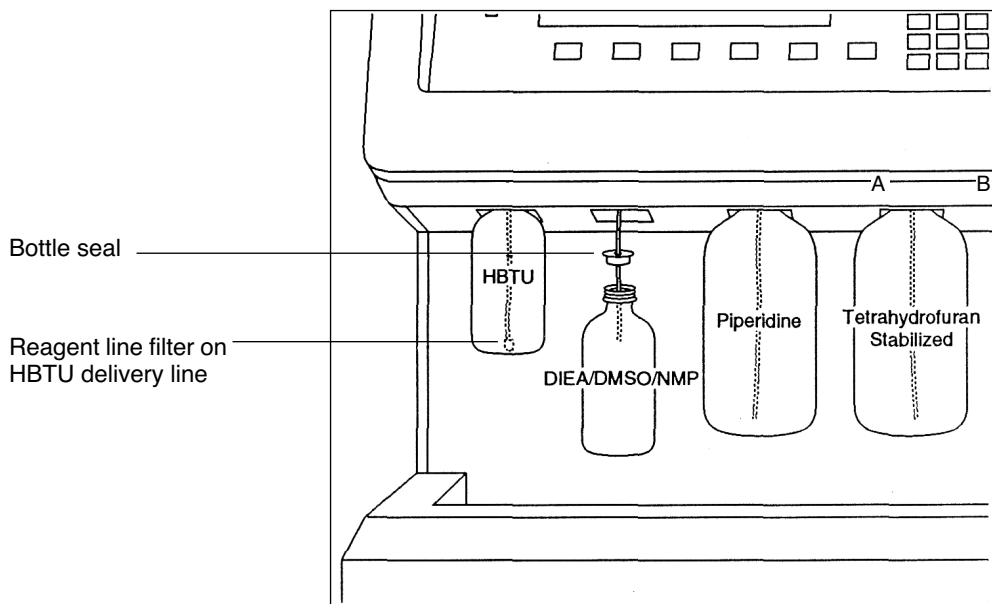

Figure 17. Reagent bottle positions on the front of the Synergy Peptide Synthesizer.
- b. With the reagent delivery line inside, hold the bottle straight up and turn it carefully into the threads of the ratchet cap on Synergy (Figure 17). The bottle should fit firmly in place.
dimethyl sulfoxide/N-methylpyrrolidone) in position B, Piperidine in position 1, and THF (Tetrahydrofuran) in position 2 (Figure 17).